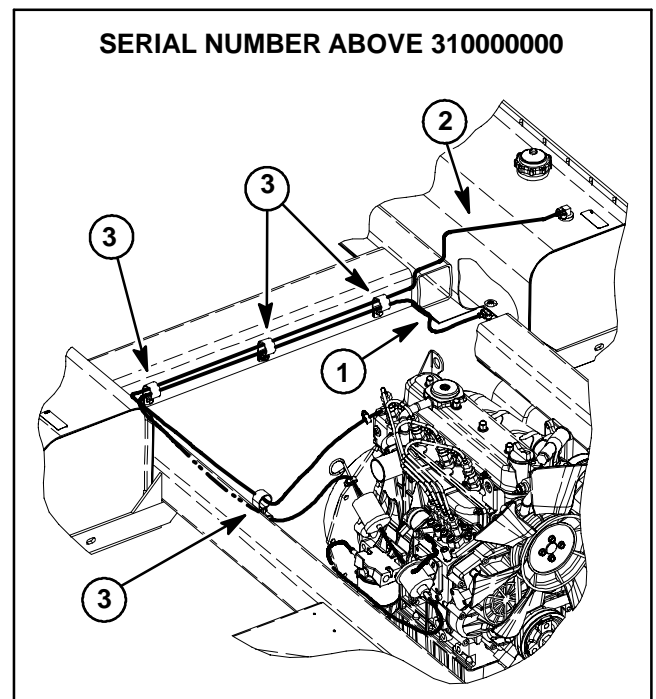

Figure 3
5. If necessary, remove fuel hoses from machine. Note fuel hose routing for assembly purposes (Fig. 3).